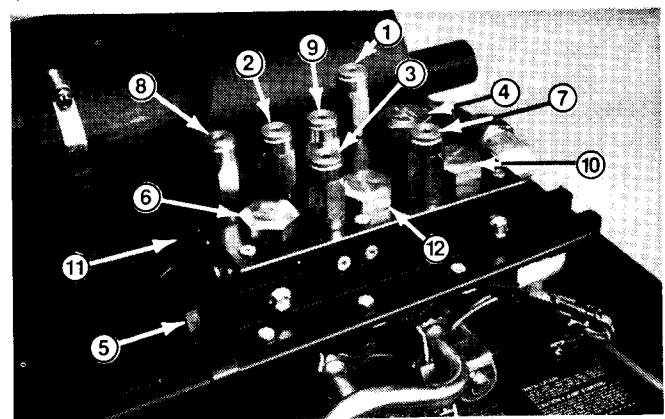

Figure 17
6. If pressure is too high, remove cap for affected bypass (main) relief valve and adjust screw to get correct pressure (Fig. 17). If pressure is too low, check for restriction in pump intake line. Remove cap from affected bypass (main) relief valve and adjust screw to get correct pressure. Inspect bypass (main) logic cartridge and clean or replace if necessary. If pressure is still too low, pump or motor should be suspected of inefficiency, wear or damage. Remove pump or motor and repair or replace.